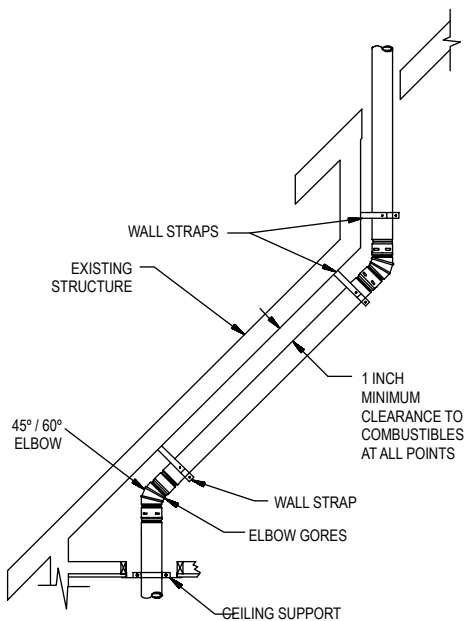

Figure 10
7. Elbows. When Elbows are required, strap the Pipe Sections and/or Elbows in place using Wall Straps. **Important:** the offset must be supported with Wall Straps to prevent the weight from stressing the elbows, as shown in **Figure 10**.
used to support each elbow (**Figure 10**). Do not allow the elbows to support the weight of the vent pipe.